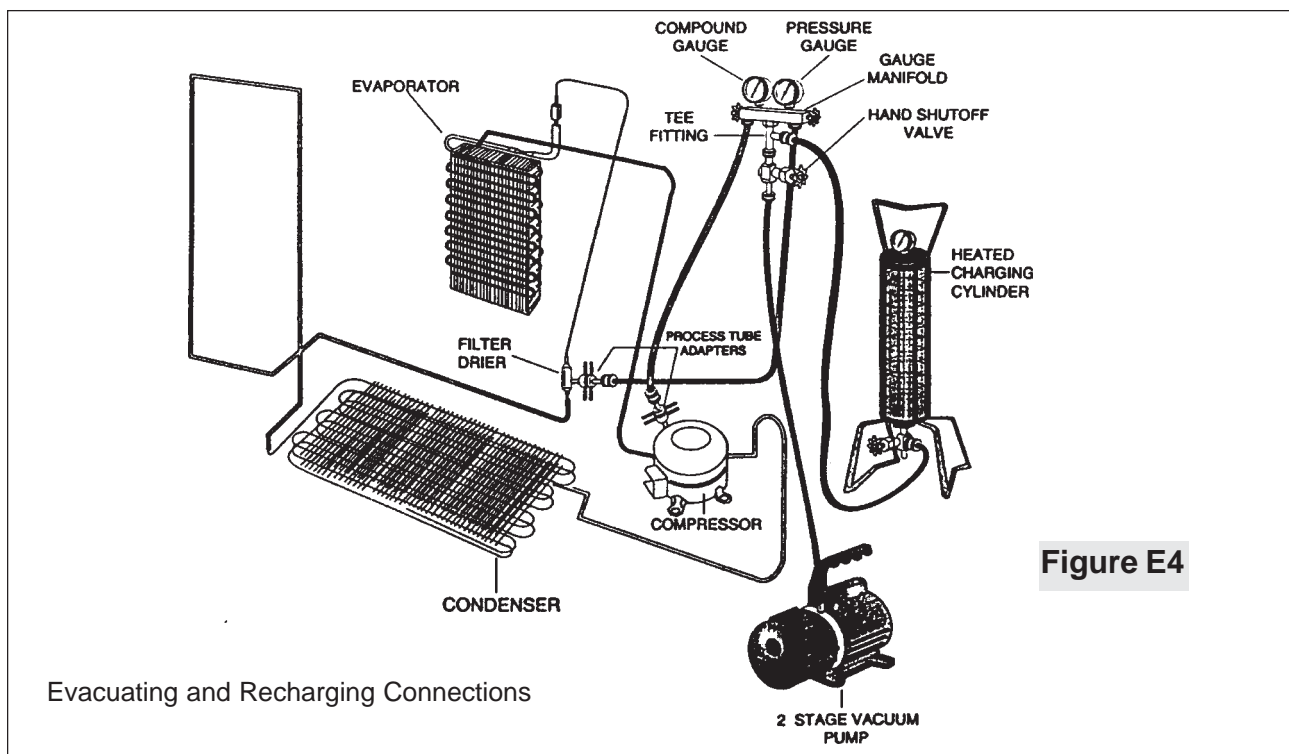

Figure E4
**CAUTION: If you use a vacuum pump with mineral oil to evacuate an R-134a system, it is ABSOLUTELY ESSENTIAL to have a shut-off valve between pump and your manifold gauge set as shown in Figure E4. The hand valve must be closed during all times when vacuum pump is not operating. This will prevent migration of mineral oil vapor into R134a/Ester oil system. If vacuum pump should stop during evacuation for any reason, the hand pump shut-off valve must be closed immediately.**